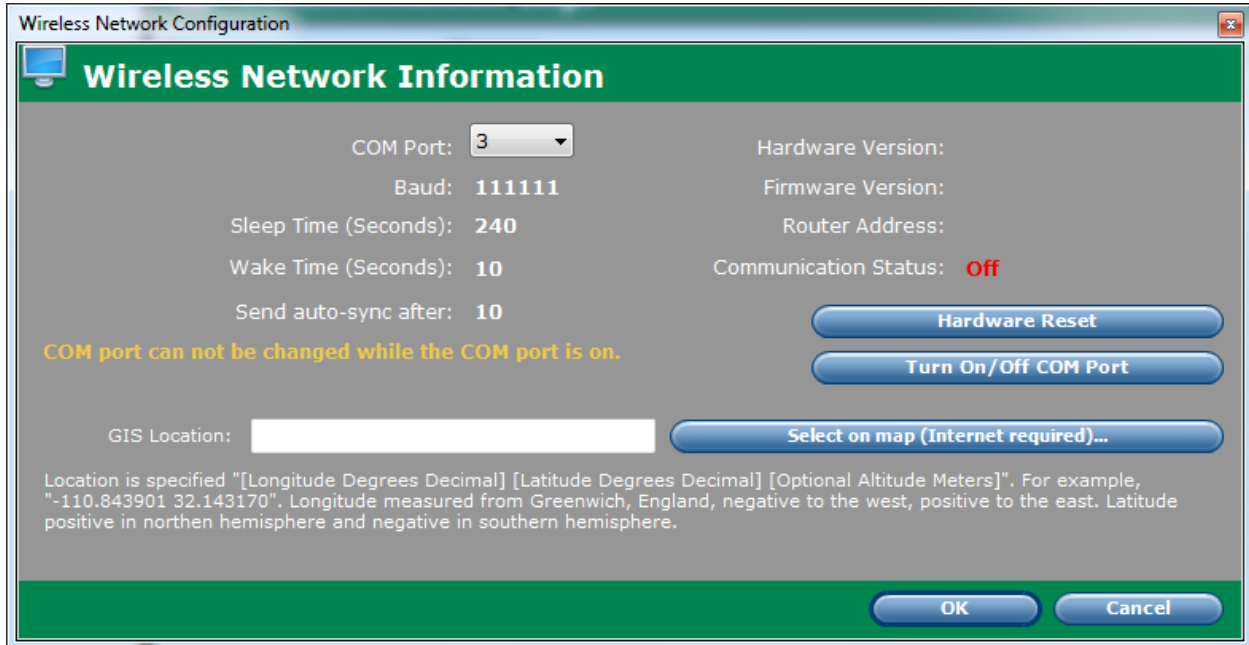

Figure 21
16. The **Wireless Network Information** window is now opened. The first time Soil Manager is executed the COM Port will be turned OFF and the COM Port list (Figure 21) will be active. If this is an upgrade install and Communication Status is ON, click **Turn On/Off COM Port** to switch it OFF. Using the **COM Port** drop down list select the COM Port number recorded in *ISG-2400 Wireless Gateway Installation* step 8 (Figure 7).